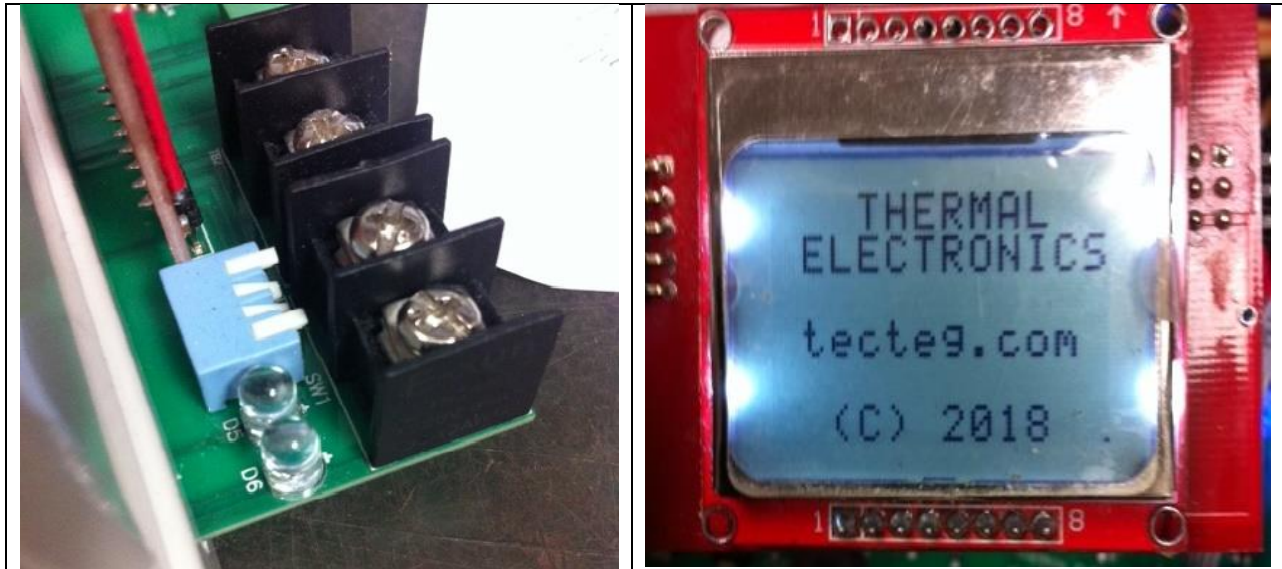

Fig.3 Rear side showing the DIP switch setting for standard 14.4V bulk charging operation.
3) After the dip switches have been adjusted as shown in Fig.3 above, and the power has been cycled from step 2, the controller will begin a new startup cycle with the output voltage at 14.4V which is the bulk charge voltage for a 12V lead acid battery.